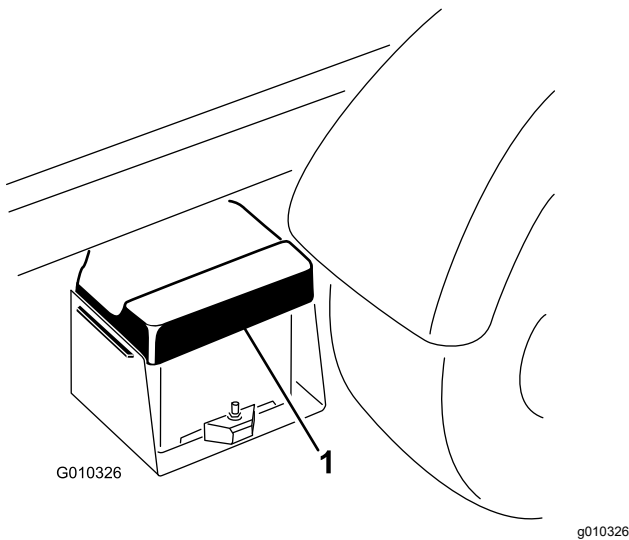

Figure 41
1. Squeeze the battery cover to release the tabs from the battery base and remove the battery cover from the battery base (Figure 41).